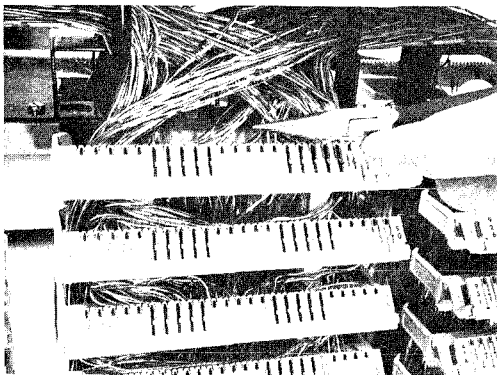

Fig. 11 — Removing Jumper Wire
5.03 Grip the jumper wire, using long nose pliers, approximately $\frac{1}{4}$ " in rear of module. (See Fig. 11.)